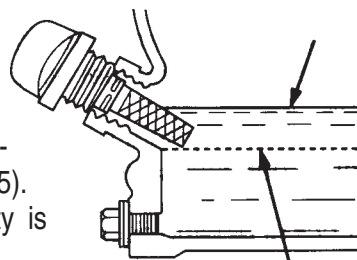

Figure 16. Engine Oil Dipstick (Oil Level)
4. If the oil level is low (Figure 16), fill to the edge of the oil filler hole with the recommended oil type (Table 5). Maximum oil capacity is 1.16 quarts (1.1 liters)